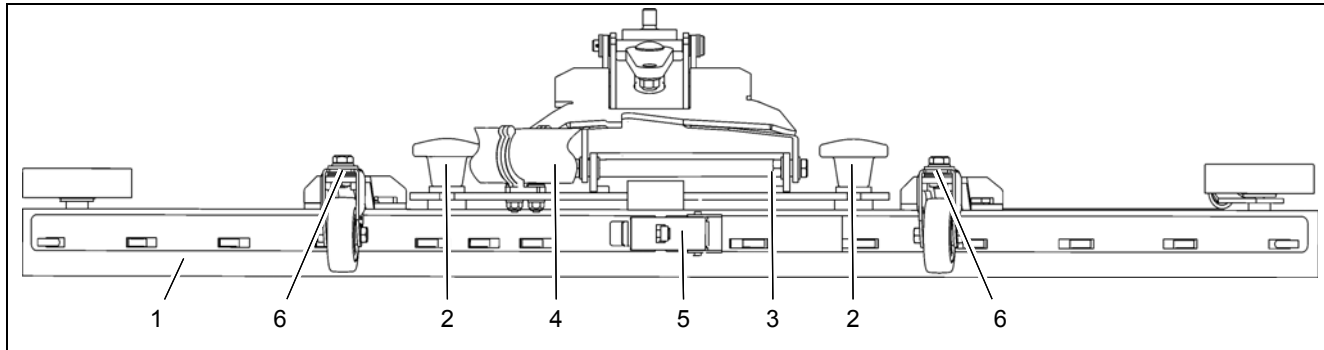

Fig.1
Check the squeegee (Fig. 1/1) daily and clean as necessary.
To clean it lift the squeegee out, pull off the suction hose (Fig. 1/4), loosen the two star-shaped knobs (Fig. 1/2) and remove the squeegee.
Check the inner and outer sealing strips on the squeegee (Fig. 1/1) weekly for signs of wear. The sealing strips can be used fourfold by turning them.
3. Unlock the fastening device (Fig. 1/5) and remove the outer sealing strip. Turn the sealing strip or install a new one, as necessary. Change the inner sealing strip in the same way.